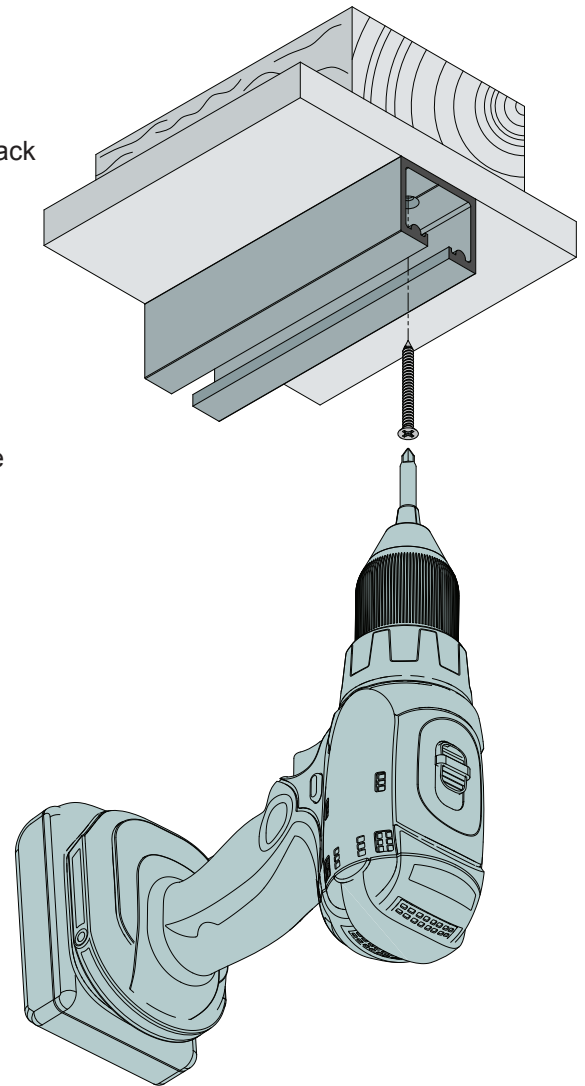

FIG. 3
3. Secure the top track onto the top surface with #10 screws (not provided) at 12" (305 mm) on center and 1-1/2" (38 mm) from the wall **(fig. 3)**